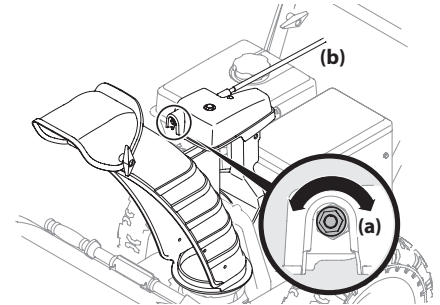

Figure 4-9
1. To increase preload, tighten hex nut (a) clockwise in ¼ turn intervals. The chute control rod (b) will need to be held stationary when tightening the nut. See Figure 4-9.